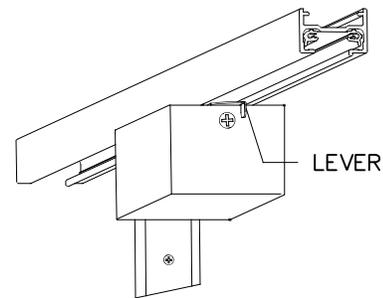

FIG. 2
4. Turn LEVER to position shown in FIG 2. to mechanically secure DRIVER HOUSING.